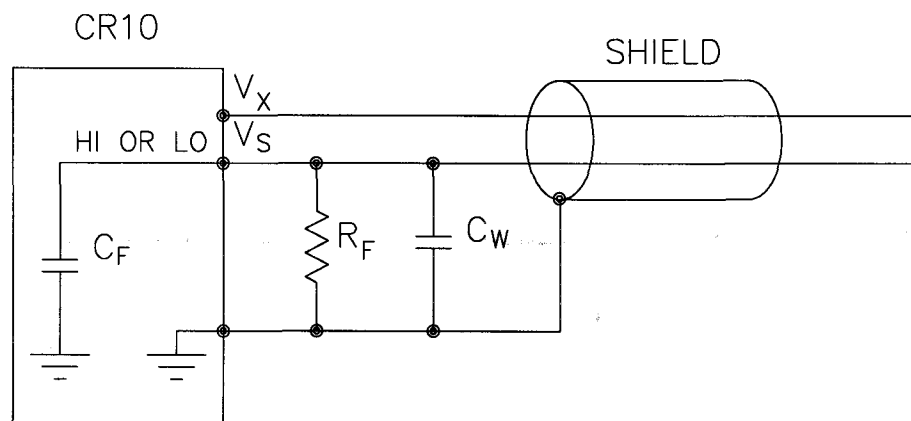

FIGURE 13.3-8. Measuring Input Settling Error with the CR10
5. Use the CR10 to measure the input settling error associated with a given configuration. For example, assume long leads are required but the lead capacitance,  $C_w$ , is unknown. Configure  $R_f$  on a length of cable similar to the measurement. Leave the sensor end open as shown in Figure 13.3-8 and measure the result using the same